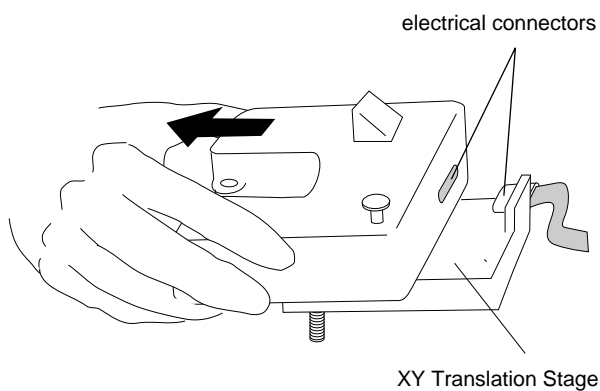

Figure 2-6. Removing the probe head from the XY stage.
4. Remove the probe head by sliding it off the support arms of the XY stage, as shown in Figure 2-6. As you slide the head off the XY stage, the electrical connector on the back of the probe head will become disengaged.